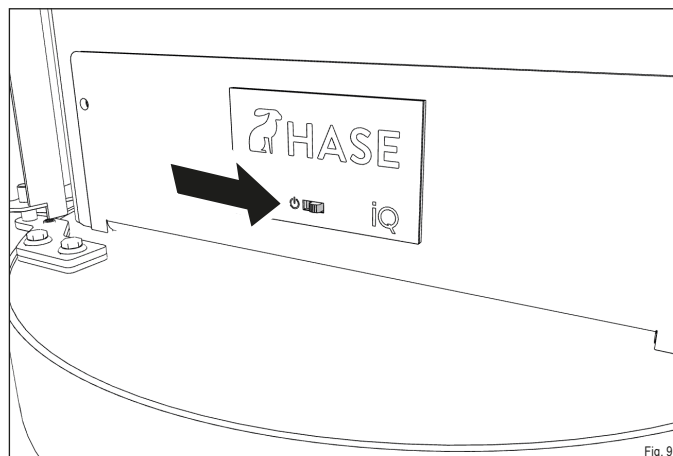

Fig. 9
- ▶ Set the switch on the control panel to "On" (Fig. 9).